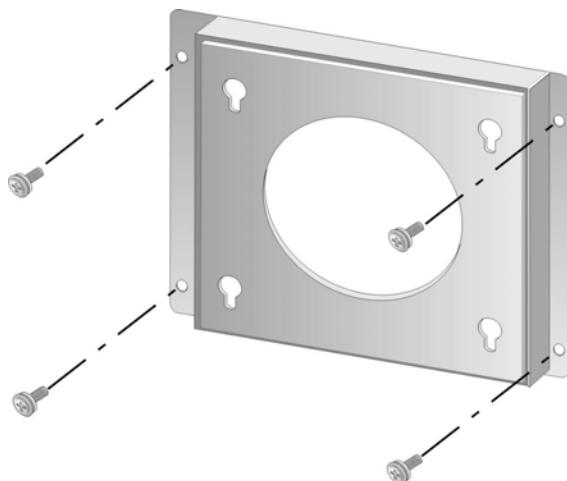

Figure 3-23: Wall-mounting Bracket
Step 5: Secure the mounting-bracket to the wall by inserting the retention screws into the four pilot holes and tightening them (**Figure 3-23**).